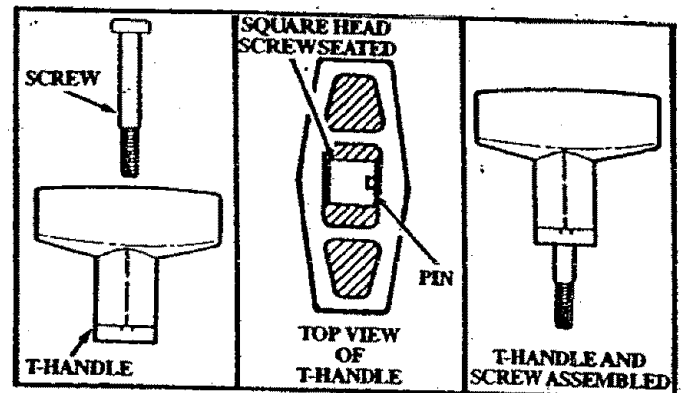

Figure 9
c. Drop the threaded end of the square-head Assist Handle Screw through the opening in the top of the T-Handle. Figure 9.